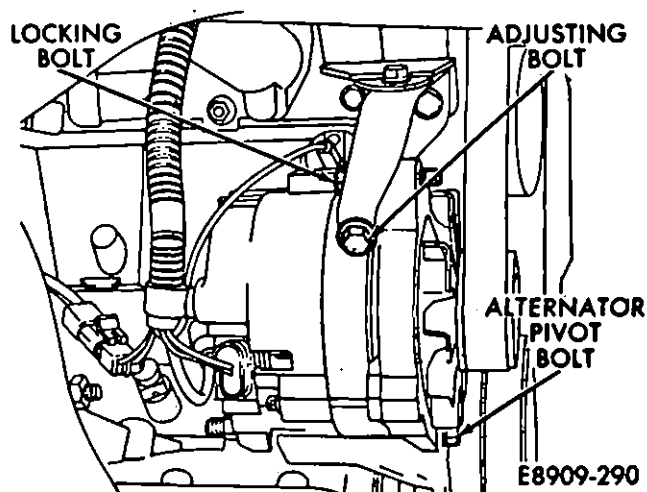

Fig. 29—Belt Tensioning
(23) Connect the oil level sensor electrical connectors.
(24) Connect the knock sensor electrical connector to the knock sensor.
(25) Position the splash shields in the wheel wells so that they hang straight down.
(26) Install both front tires and wheels. Tighten the lug nuts to 85 N·m (63 ft-lbs) torque.
(27) Push the transmission shifter cable through the hole in the body and into the passengers compartment. Position the grommet in the hole.
(28) Lower the vehicle.
(29) Install the air conditioning compressor on the valve cover. Tighten the bolts to 27 N·m (20 ft-lbs) torque.
(30) Position the accessory drive belt on the pulleys. Be sure that the belt is routed correctly (refer to Group 7, Cooling System, Drive Belt Adjustments, for the proper procedure).
(31) Raise the vehicle.
(32) Install a belt tension gauge on the accessory drive belt halfway between the air conditioning compressor and the alternator. On vehicles without air conditioning, install the gauge halfway between the water pump and the alternator.
(33) Tighten the adjusting bolt until the correct belt tension is obtained (Fig. 29). If a new accessory drive belt is installed, it must be tensioned after 12 070 km (7500 miles) of usage. Correct belt tension is:
(34) Tighten the alternator pivot bolt to 50 N·m (37 ft-lbs) torque.